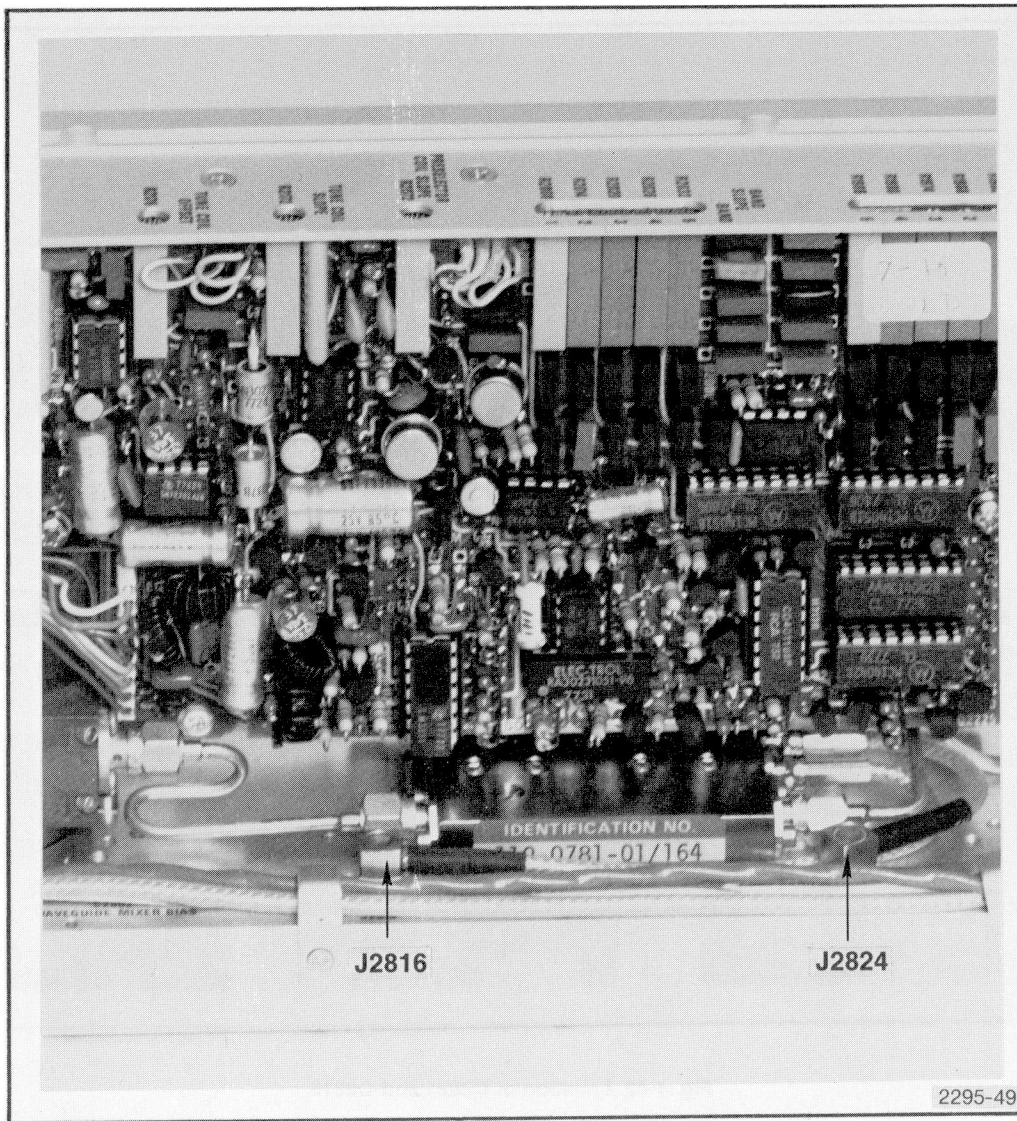

Fig. 4-41. Location of J2824, J2816 and Adjustments on Microcomputer Interface Board.
- g. Remove the signal from J2824 and reconnect P40 to J2824, then apply the 510 MHz signal to J2816 (Fig. 4-41).